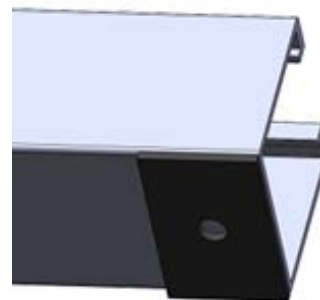

Figure 4
1) Based on the rib spacing of metal roof sheet, mark out the positions of self-tapping screws (Clenergy 240 mm long MT rail section is equipped with two Buildex 14-11 x 70 Hex Head Zips screws) on the MT-Rail Support and then attach the glued EPDM rubber pad under the MT-Rail Support as shown in Figure 4.